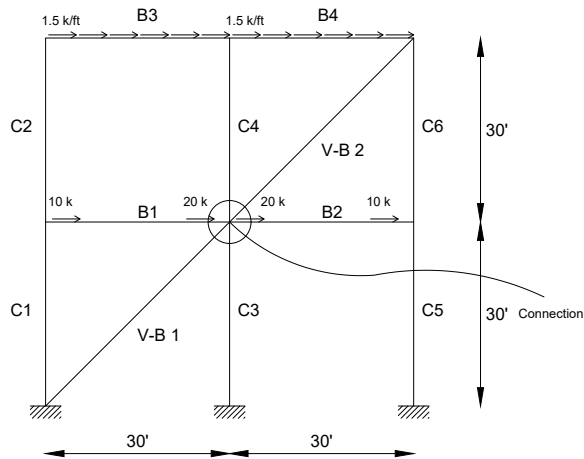
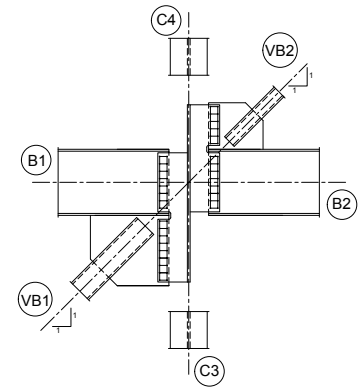

Figure 1
Figure 2
Given the frame shown in Figure 1, calculate the transfer force (TF) at the highlighted connection in the center using the configuration shown in Figure 2. Treat end connections as pinned. The 1.5 k/ft force shown is being delivered by the attachment of a diaphragm to beams B3 and B4. The 10-kip and 20-kip forces shown are being delivered by the attachment of horizontal bracing to the beam ends.
The transfer force can be determined by summing the forces on the left-hand side or right-hand side of the column and determining what force is required to achieve equilibrium. Using the configuration shown in Figure 2, the TF can be defined using the x-direction components of the forces as follows: